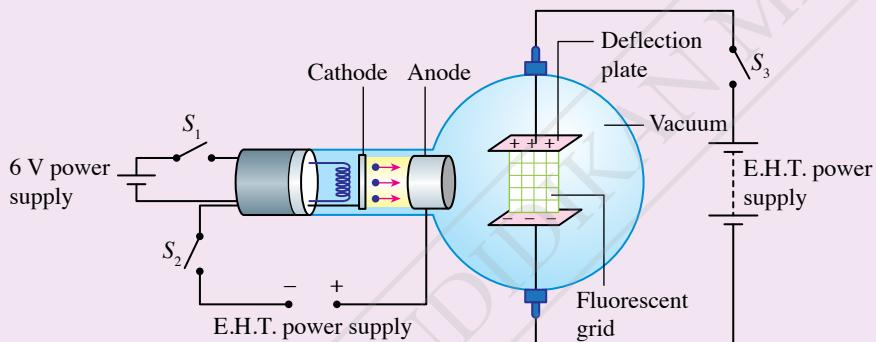

Figure 5.2 Deflection tube
- Set up the apparatus as shown in Figure 5.2.